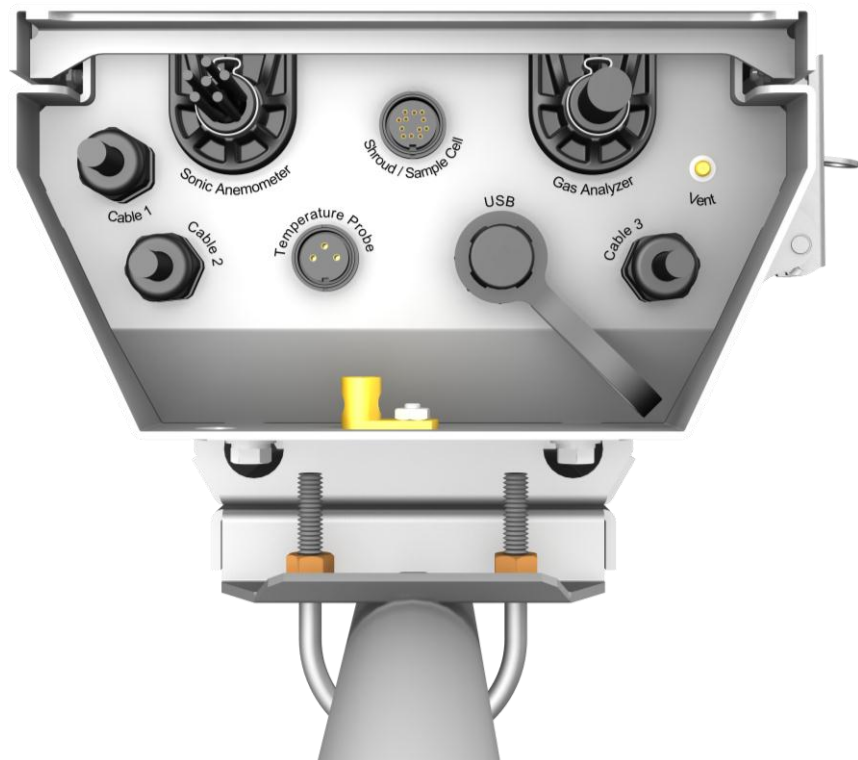
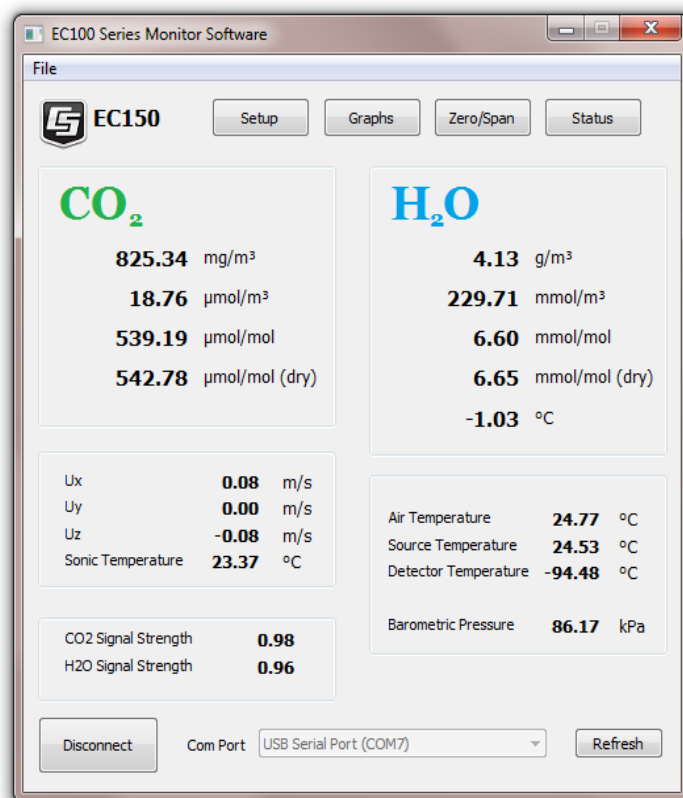
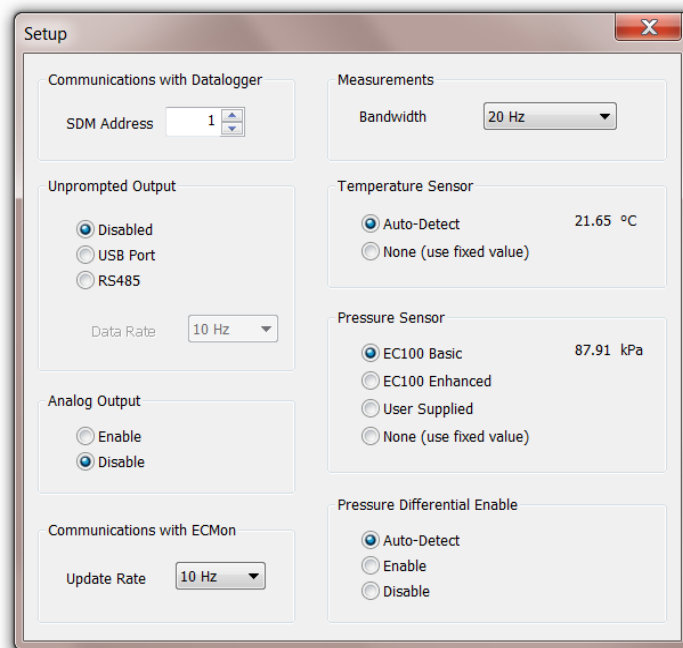

Figure 6-6. Bottom of EC100 enclosure
Figure 7-1. The Main screen in ECMon
Figure 7-2. The Setup screen in ECMon
Figure 6-5 and Figure 6-6 below show EC100 electronics panel and the bottom of the EC100 enclosure, respectively. Refer to these figures during wiring and connecting.
- a. Connect the EC150 gas analyser head. Begin by removing the black rubber cable entry plug (pn #26224) on the bottom right of the EC100 enclosure. (This plug can be stored in the mesh pocket of the enclosure). Now insert the cable entry plug that is attached to the large cable of the EC150 gas analyser head into the vacant slot. Push the connector at the end of the cable onto its mating connector (labelled *Gas Analyser*) and tighten the thumbscrews (see Figure 6-6). The EC150 gas analyser cable is approximately 3 meters in length.
- b. Connect the CSAT3A sonic head (skip this step if not using the CSAT3A). Similar to (a), begin by removing the black rubber cable entry plug found on the bottom left of the EC100 enclosure. Insert the cable entry plug on the CSAT3A cable into the slot and connect the male end to the female connector labelled *Sonic Anemometer* on the EC100 electronics (see Figure 6-6). The CSAT3A cable is approximately 3 meters in length.
- c. Connect the EC150 temperature probe. Unscrew the temperature connector cover, which is found on the bottom of the EC100 enclosure (see Figure 6-6). Insert the 3-prong temperature probe connector into the female connector on the enclosure and screw it firmly in place. The EC150 temperature probe cable is approximately 3 meters in length.
the Support CD), which are required for communications between the PC and the EC100 via the EC100 USB cable (pn #26561). (Some newer PC operating systems will automatically find and download the USB drivers from the internet when the USB cable is connected to the PC). Once the drivers are installed, download and run the ECMon.exe install file. Launch ECMon, and connect the EC100 electronics to the PC with the included EC100 USB cable (pn #26561). The USB connection for the EC100 electronics is found on the bottom of the enclosure (see Figure 6-6). Once connected, select the appropriate communications port in the ECMon Main Page and click **Connect** (see Figure 7-1). Next click on the **Setup** button. All of the above settings are now available for the user to change (see Figure 7-2).